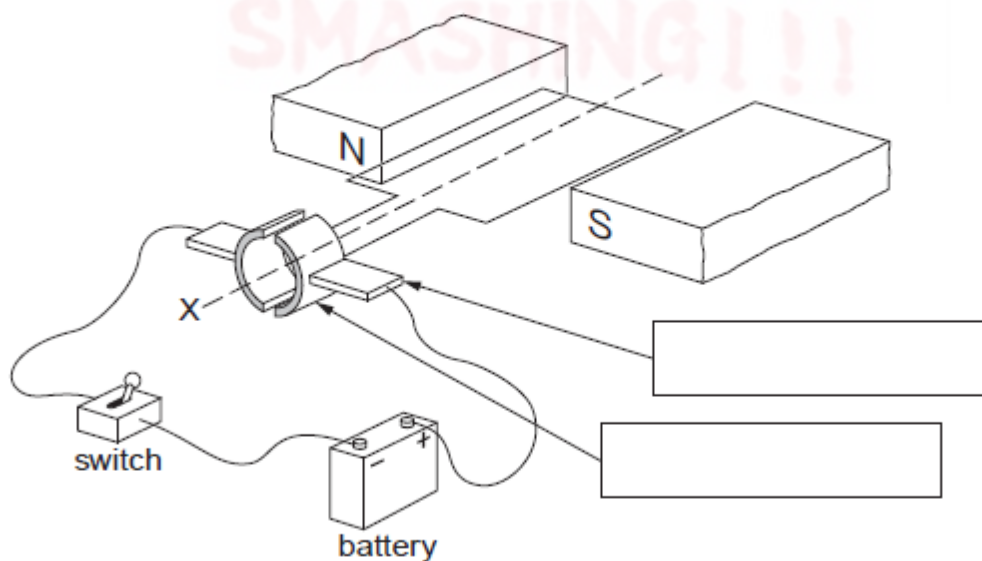

Fig. 9.2
- (b) Fig. 9.2 shows a simple d.c. motor connected to a battery and a switch.
(i) On Fig. 9.2, write in each of the boxes the name of the part of the motor to which the arrow is pointing. [2]